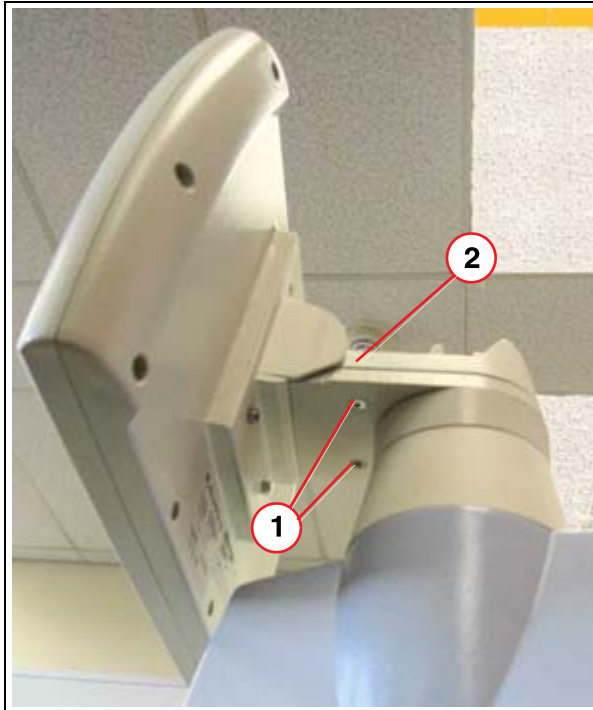

Fig. 9: Emergency stop
2. Unscrew the 2 Allen screws (1/Fig. 9 / p. 35)
3. Remove the cover (2/Fig. 9 / p. 35).